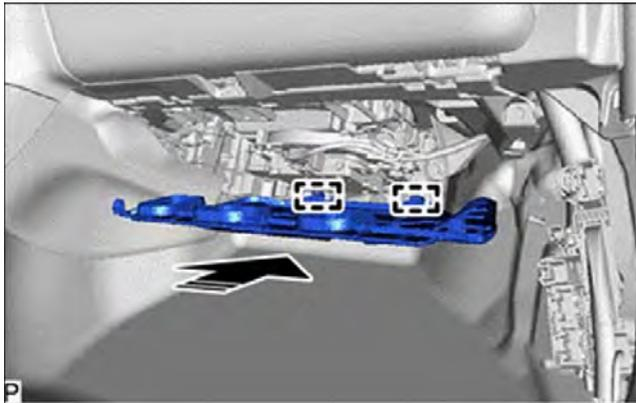

Figure 67
- (b) Engage the 2 guides, as shown in Figure 67.